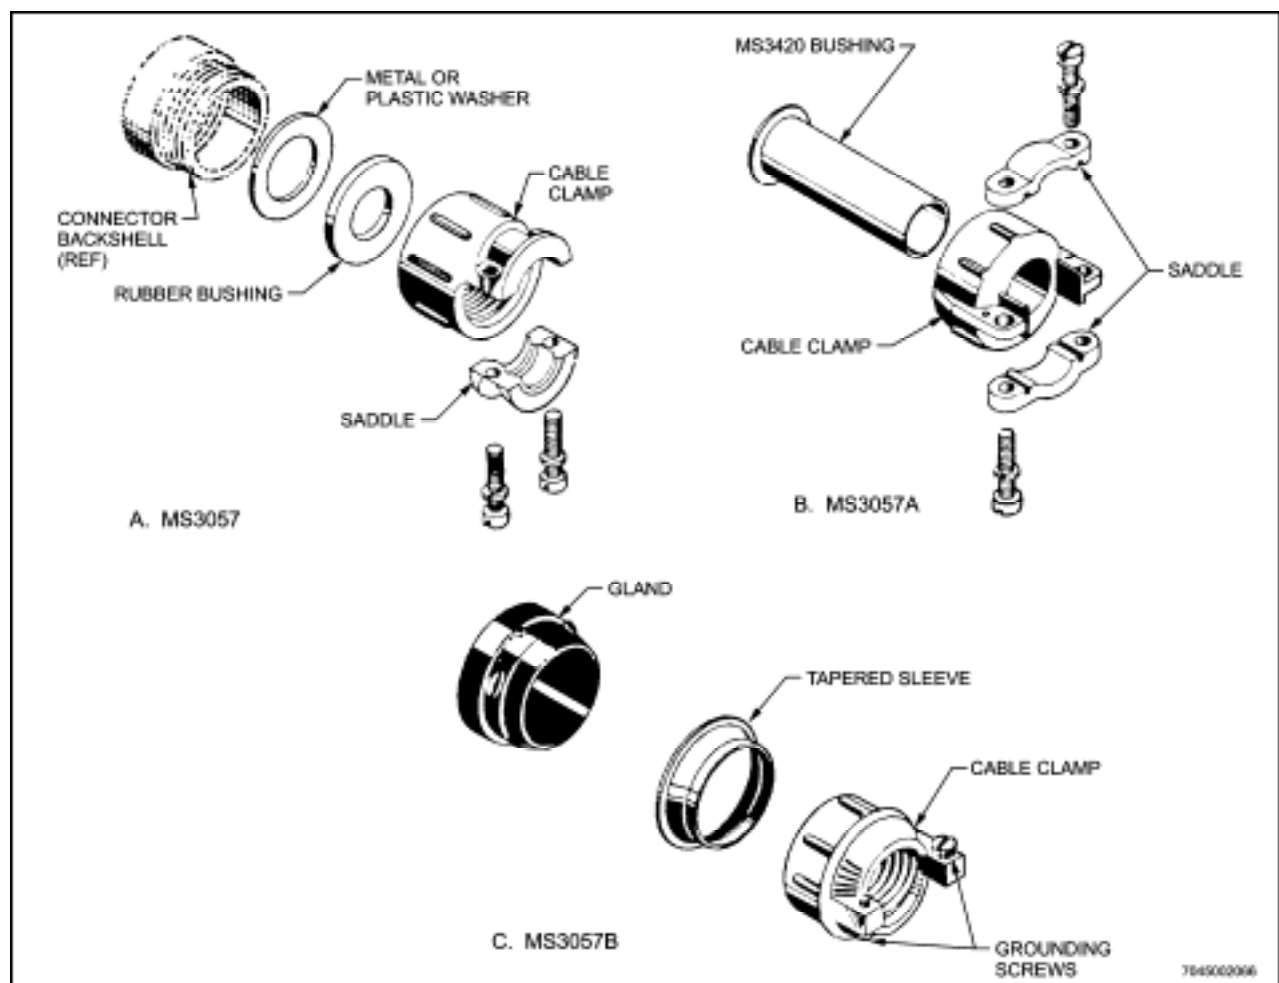

Figure 10-38 MS3057 Connector Cable Clamp Types – Exploded View
65. There are three types of MS3057 connector cable clamps. (See Figure 10-38 and Table 10-14).
- a. MS3057 has a single saddle held by two screws. It contains a metal or plastic washer and a flat rubber bushing. For shipping, to prevent loss of the metal or plastic washer, it is placed inside the clamp and held in place by the rubber bushing. Before use, reverse the position to that shown in Figure 10-38 so that the metal or plastic washer will contact the back shell of the connector.